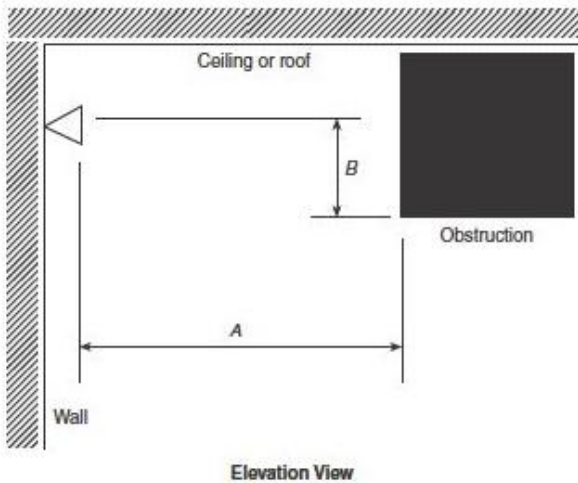

FIGURE 8.7.5.1.3 Positioning of Sprinklers to Avoid Obstructions (Standard Sidewall Spray Sprinklers).
Note: For (A) and (B), refer to Figure 8.7.5.1.3.